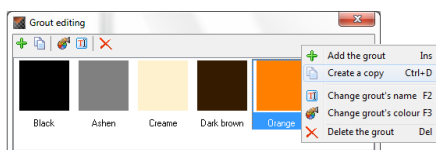

Fig. 382 – grout edition
- **Grout editor** – opens a window in which you can define grouts colours and names, e.g. names conforming to the given producer's names. It is possible to add, copy, edit colours and names of grouts using the icons or the context menu (Fig. 382).